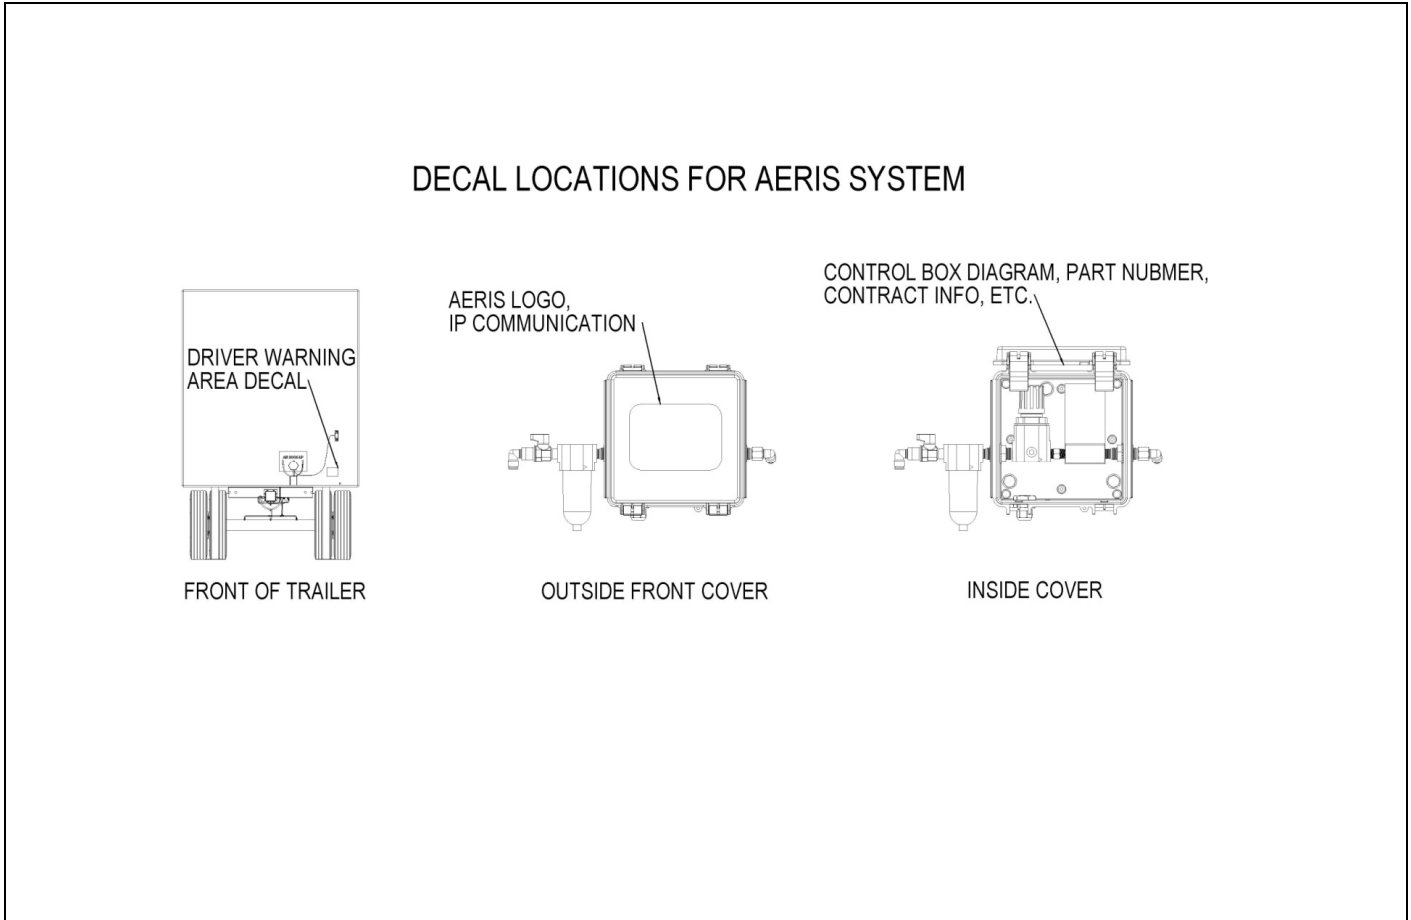

Figure 34
- Place decals on front of trailer by the indicator light and on the inside and outside of the control box cover. See Figure 34